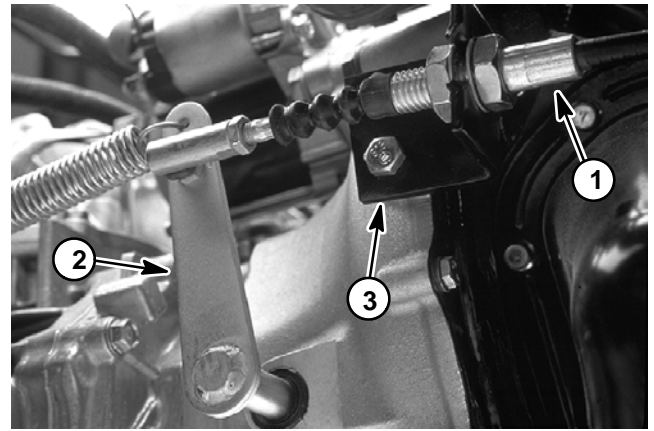

Figure 13
4. Note orientation of 90° fitting (item 17) connected to strainer on side of transaxle. Remove hydraulic hose and 90° fitting from strainer.
8. Disconnect clutch cable from clutch release lever, then loosen jam nut to remove clutch cable from support bracket (Fig. 13).